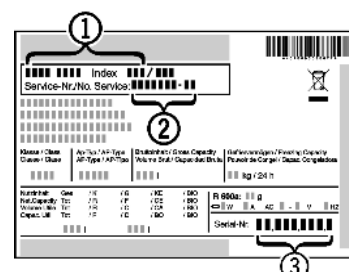

Fig. 14
- Read the appliance designation *Fig. 14 (1)*, service No. *Fig. 14 (2)* and serial No. *Fig. 14 (3)* off the type plate located inside the appliance on the left-hand side.
- Notify the customer service, specifying the fault, appliance designation *Fig. 14 (1)*, service No. *Fig. 14 (2)* and serial No. *Fig. 14 (3)*.